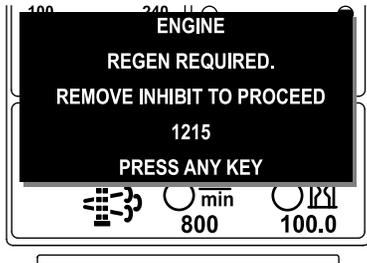

Figure 42
**Note:** If you set the InfoCenter to inhibit regeneration, the InfoCenter displays ADVISORY #1215 (Figure 42) every 15 minutes while the engine requests a reset regeneration.